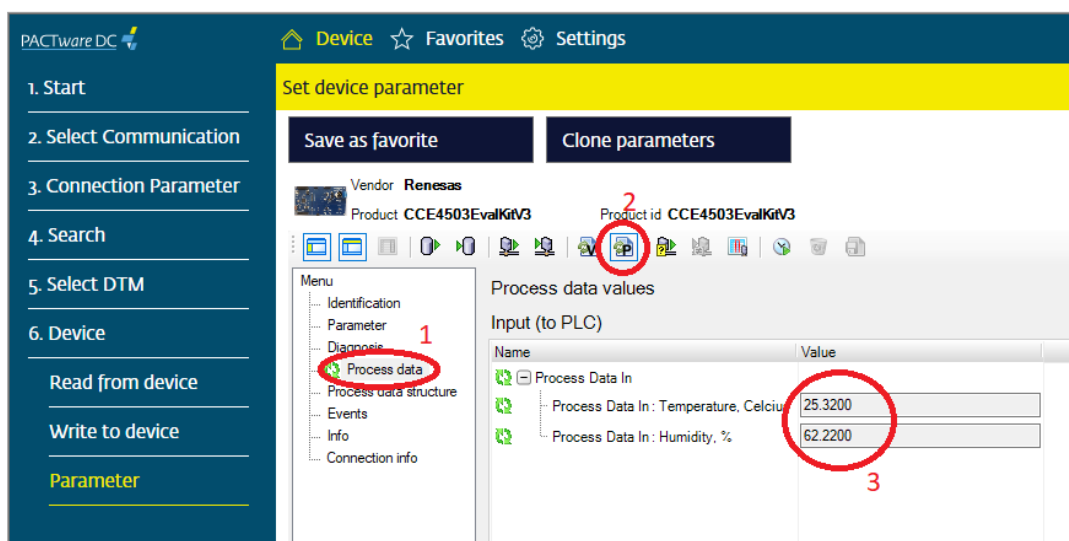

Figure 23. Cyclic Reading of the Data Values
2. Enable cyclic read from the device by clicking on the icon shown in Figure 23 (labeled “2”).